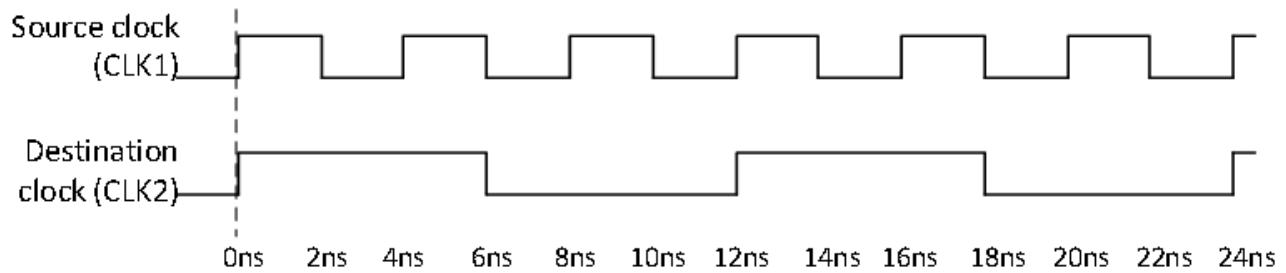

Figure 6-21: Multicycles Between FAST-to-SLOW Clocks
In the next example, the launch clock **CLK1** is the fast clock. The capture clock **CLK2** is the slow clock. Assume that **CLK1** is three (3) times the frequency of **CLK2**. See Figure 6-21, Multicycles Between FAST-to-SLOW Clocks.